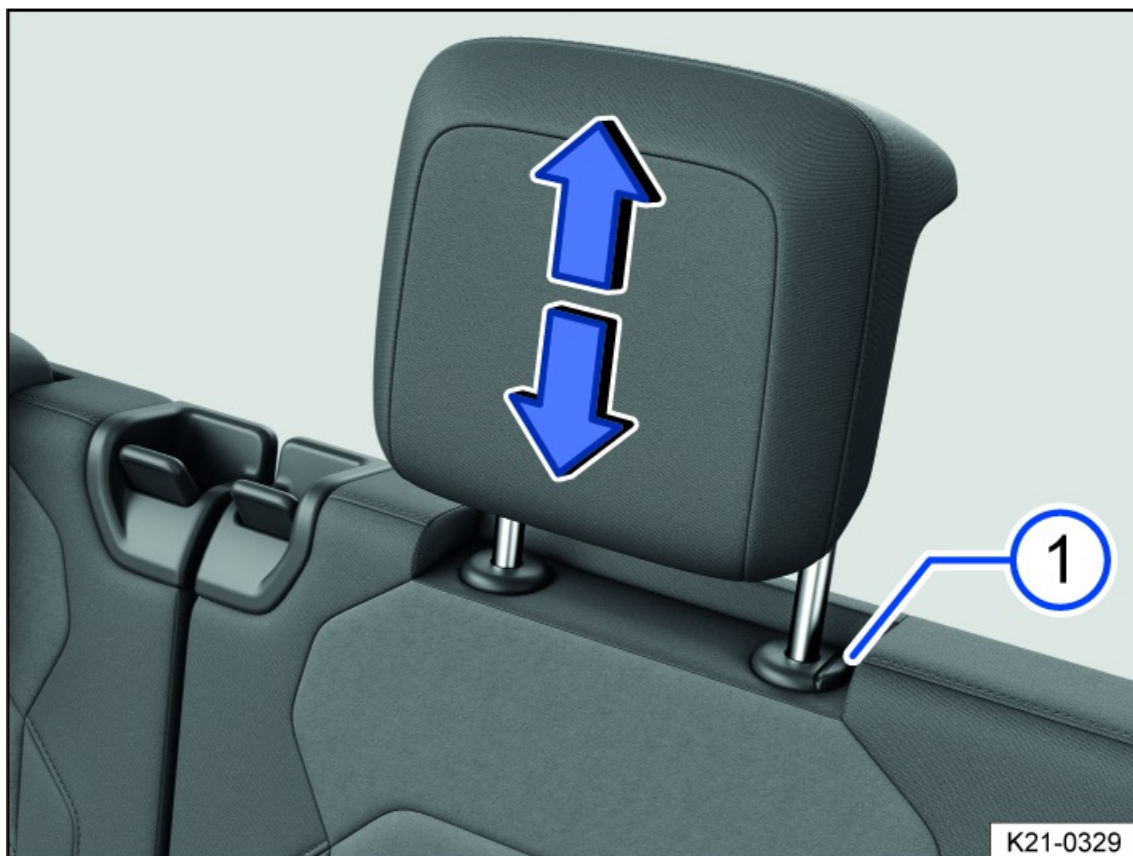
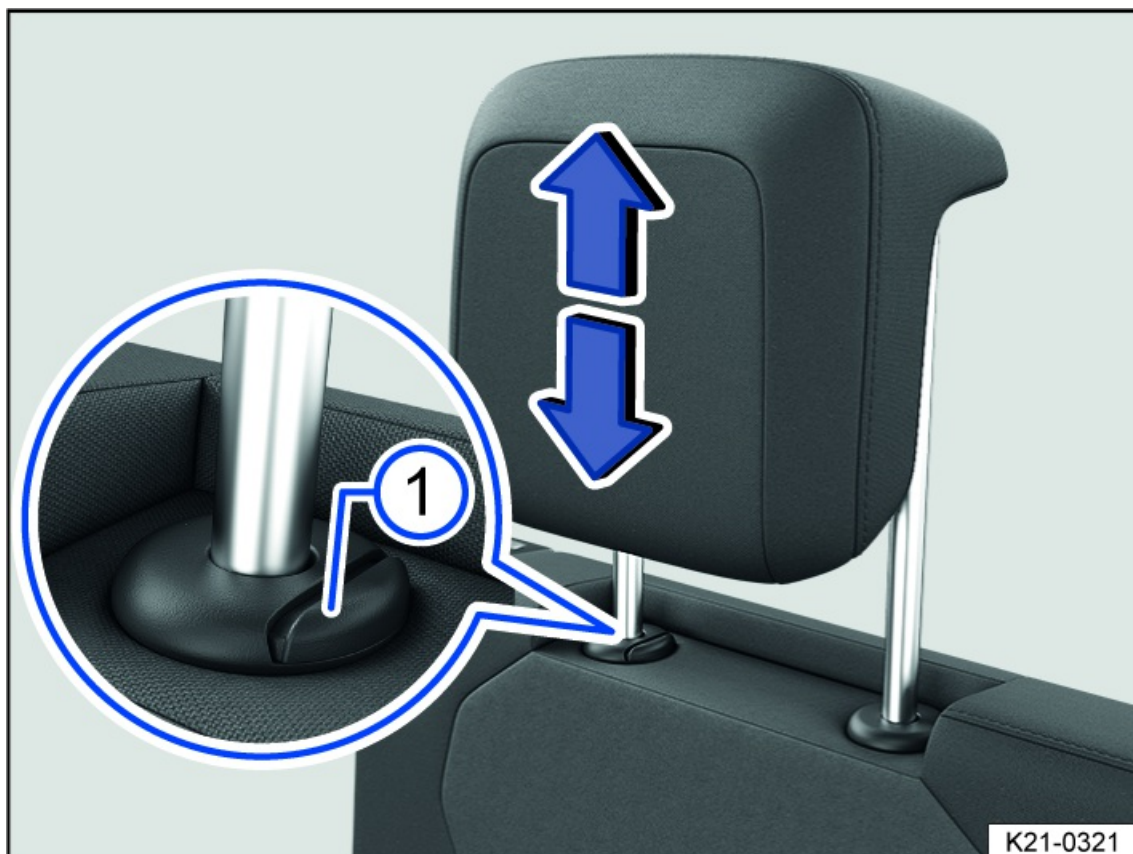

Fig. 92 Removing the head restraint on the second-row seats (general example).
Fig. 93 Removing the head restraint on the third-row seats (general example).
3. Pull the head restraint all the way out while pressing the *fig. 92* button.
4. Pull the head restraint all the way out while pressing the *fig. 93* button.
3. Push the head restraint downward while pressing the *fig. 92* or *fig. 93* button.